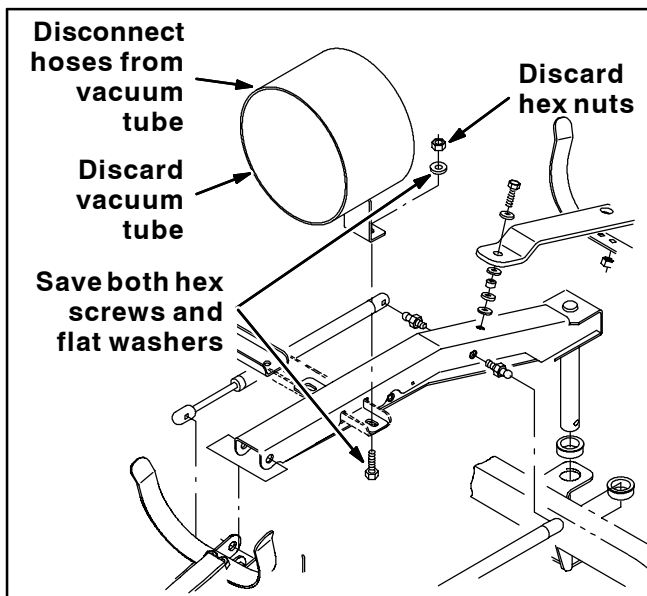

FIG. 13
1. Disconnect the vacuum hoses from the vacuum tube. Set the hose clamps aside. Refer to Fig. 13.
2. Remove hardware holding the vacuum tube onto the rear vacuum support arm and remove the vacuum tube from the machine. Set all removed hardware aside. Discard the vacuum tube. Refer to Fig. 13.